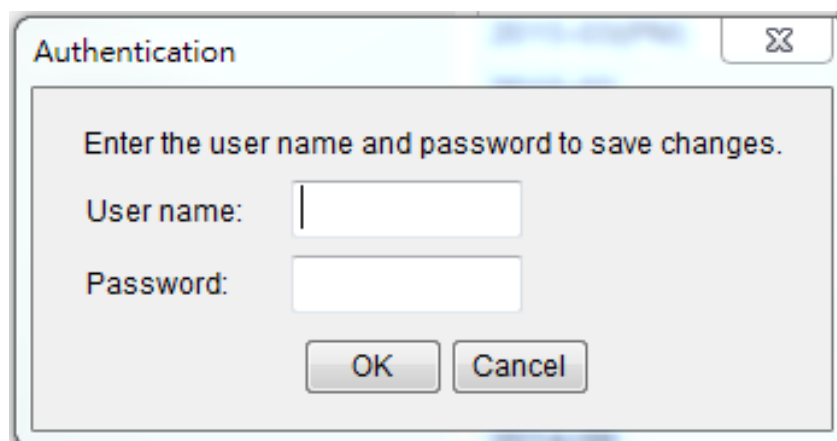

Figure 3. Authentication window.
7. You will need to enter a User Name and Password for the Remote Management Card in the authentication window, as shown in Figure 3. There are two combinations of default user name and password, and both can work.